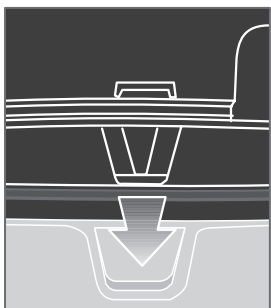

fig 10
- Reassemble the pump assembly, paying attention to the correct position of the reference marks -Fig. 10-, ensure the clips are in open position since forcing the unit in with these closed will split the canister. Make sure the pump assembly is properly seated in the filter unit and close the clips until they click into position. Check that the inlet and outlet systems, the valves and nuts are all locked tightly. Open the valve taps by rotating the levers.